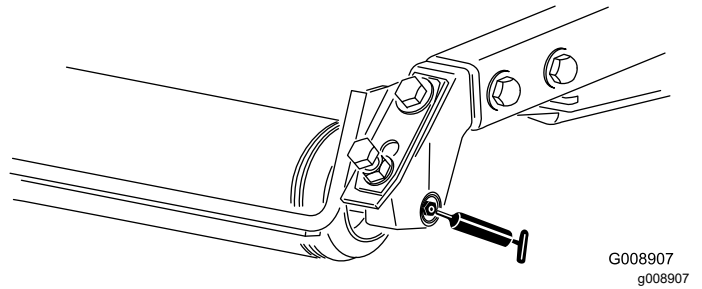

Figure 46
- Rear-roller bearings (2 per cutting unit)—Figure 46